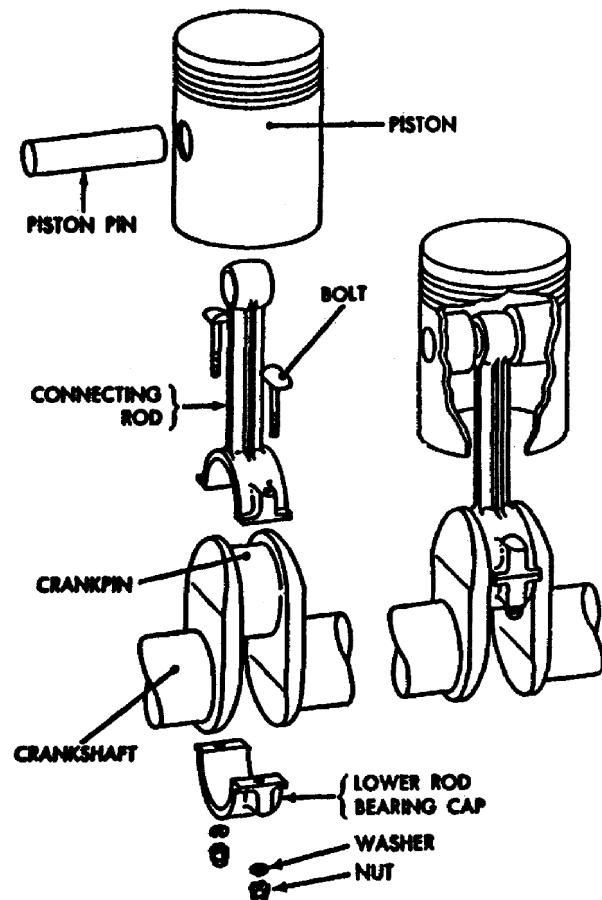

Figure 1-3. Piston, Connecting Rod, and Piston Pin.
(1) Cylinder and piston. Each cylinder of a typical engine has a piston that reciprocates (moves up and down or back and forth) within the cylinder and is connected to the crankshaft by a link known as a connecting rod (Figure 1-3). Engine pistons transmit the force of the explosion to the crankshaft through the connecting rod, and act as a guide for the upper end of the connecting rod, and serve as a carrier for the piston rings used to seal the piston in the cylinder. The top of the piston may be flat, concave, convex, or a great variety of shapes to promote turbulence or help control combustion.
(2) Connecting Rod and Crankshaft. The up-and-down movement of the piston is called reciprocating motion. This reciprocating motion must be changed to rotary motion to propel the vehicle. The change is accomplished by the crankshaft and a connecting rod which connects the piston (Figure 1-3) and the crankshaft. The connecting rod is attached to the piston by a piston pin or "wrist pin". The pin passes through the bearing and surfaces in the piston and connecting rod. The lower end of the connecting rod is attached to the crankpin on the crankshaft. As the piston moves up and down in the cylinder, the upper end of the connecting rod moves up and down with it.